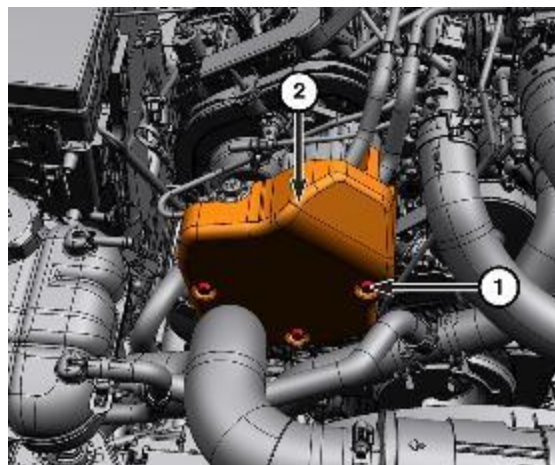

Figure 38 - Cover Screws
7. Remove the screws (1) that secure the cover (2) for the high-pressure fuel pump (Figure 38).